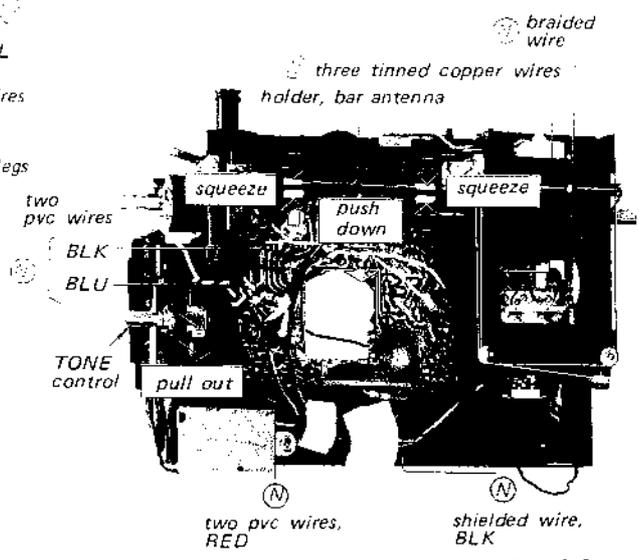

Fig. 2-8.
- Unsolder the nine wires labeled in Fig. 2-8.
- Pull out the TONE control shown in Fig. 2-8.